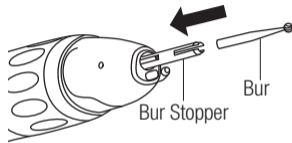

Fig. 3
- 2) Insert the supplied Bur Stopper into the chuck. (Fig. 3)